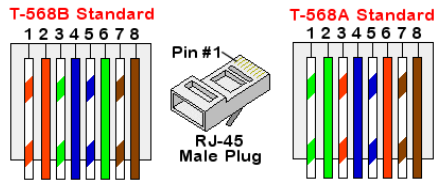

Figure 34: Standard cable wiring
- c. Insert the eight wires into an RJ45 connector, as described in Figure 34
7. For the switch/router side, use a pre-crimped cable or use a crimper to prepare an RJ45 communication connector: Insert the eight wires into the RJ45 connector in the same order as above (Figure 34).